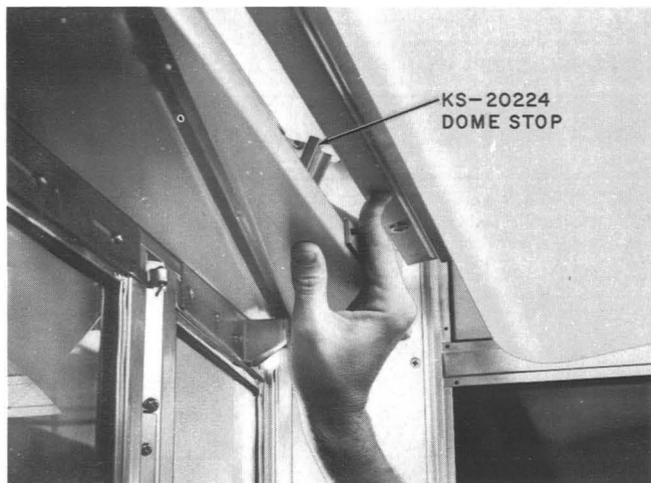

Fig. 4—Releasing Dome Stop
2.10 To lower the dome, push up on dome stop as shown in Fig. 4. After dome is lowered, release the stop.